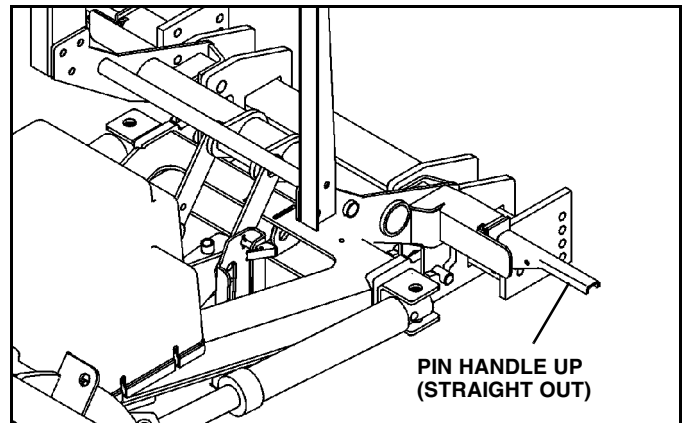

Figure 1-11
6. Rotate pin handles up (straight out) to unlock main pins. (See Figure 1-11).